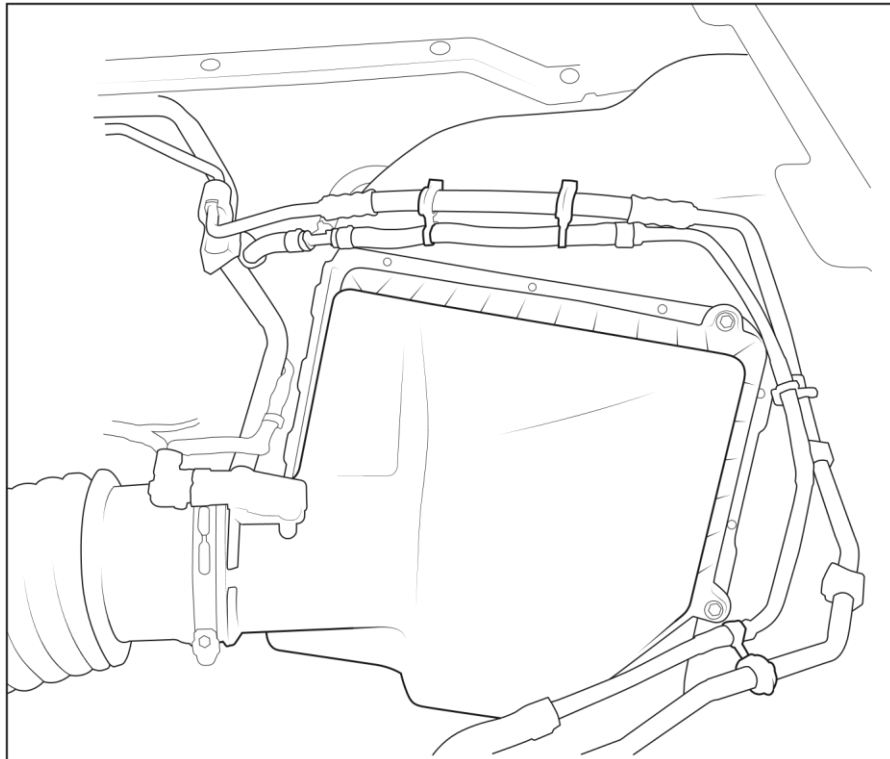

Figure 15
D. Re-install air filter and Attach factory upper airbox to AEV Lower Airbox using 3 self-tapping screws from disassembly. Re-connect MAF sensor, AC lines, and Intake hose (fig. 15).